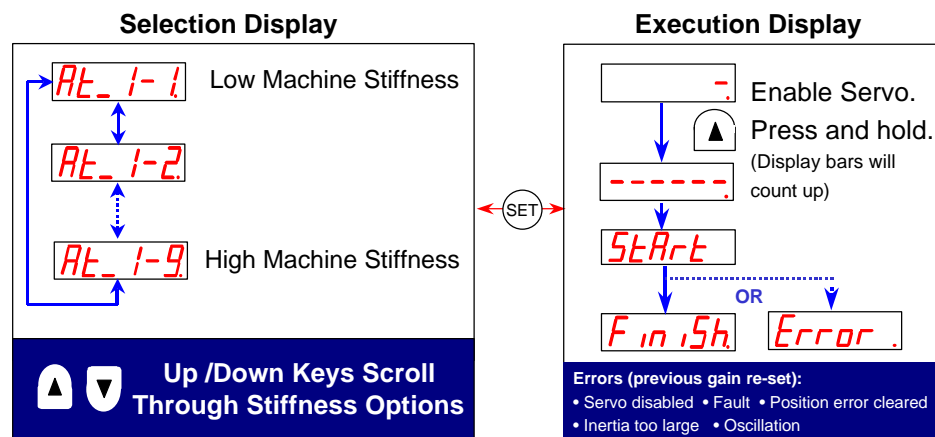

Figure 8-12. Autotuning Mode Displays
Possible causes of an autotuning error are (1) disabling the SL amplifier or activating the Position Error Counter Clear input (CL) during the tuning process, (2) excessive load inertia (>15 times the motor inertia,) (3) mechanical resonance in the machine, or (4) interference from an external motion controller (see “Autotuning with an External Motion Controller” above). When an error occurs, the gain values prior to starting autotuning are reset. Figure 8-12 shows the displays for the Autotuning Mode.